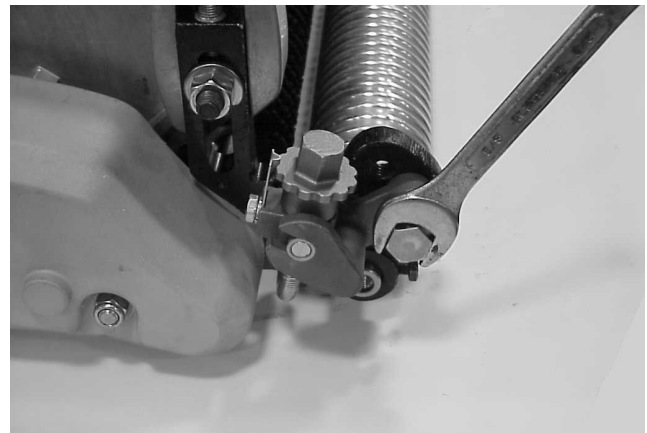

Figure 28
- Loosen the bolts on the right and left groomer arms (Fig. 28).